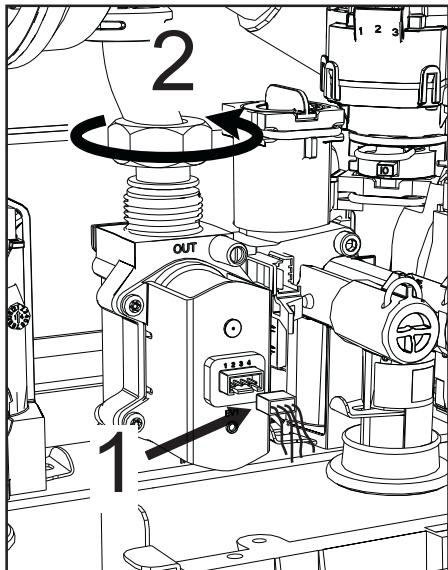

fig. 43
- Disconnect the electrical connectors “1” (fig. 43).
- Disconnect the gas supply pipe “2” (fig. 43)